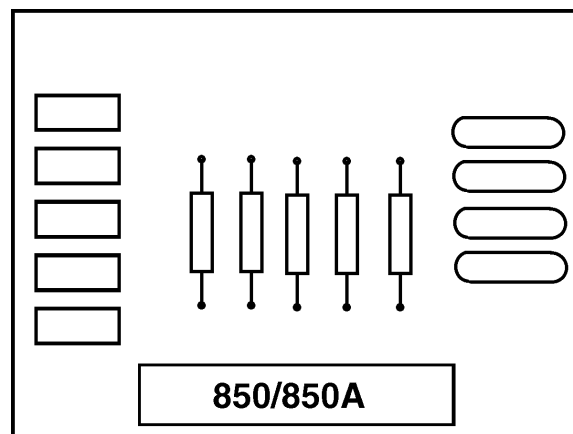

Fig. 4-9 RS-232 DB25 board.
5. To remove the RS-232 DB25 board, unscrew the two hex screws (on the exterior of the cabinet) holding the connector to the cabinet. From the inside of the cabinet, pull the connector through the panel, and disconnect the cable (see Fig. 4-9 for location).